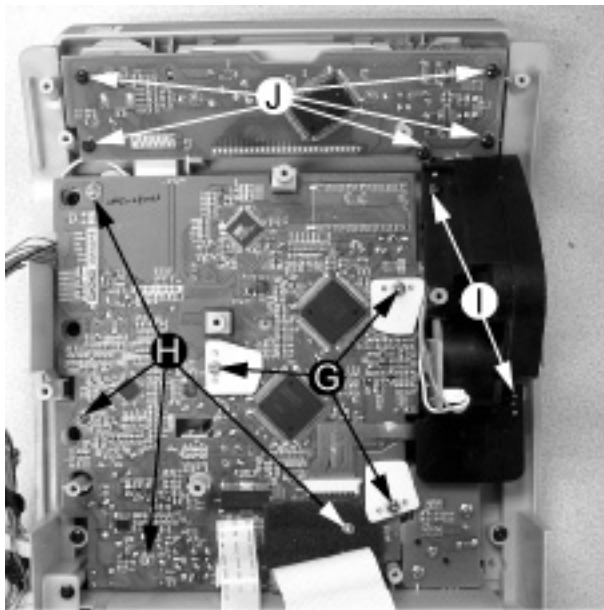

Figure 8
- 1) Loosen 5 screws J mounting the Key Board to the Front Cabinet to remove the Key Board as shown in figure 8.
- 2) Loosen 4 screws H and 3 screws G to CD Module as shown in figure 8.
- 3) Loosen 2 screws I to remove the Servo Motor Mechanism as shown in figure 8.